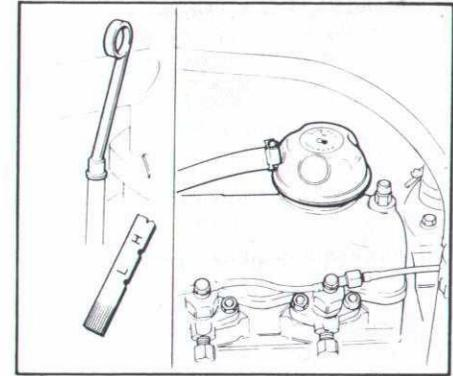

Fig. 1
**Engine oil level check – Fig. 1**